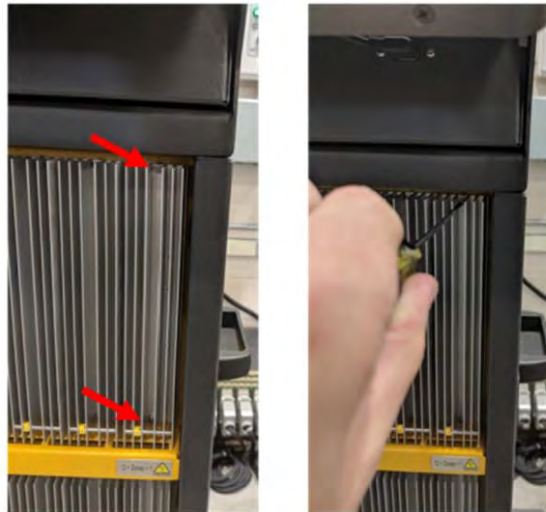

Figure 16-12 Slotted Fasteners
2. Loosen the top and bottom slotted fasteners on the heat sink (refer to Figure 16-12).